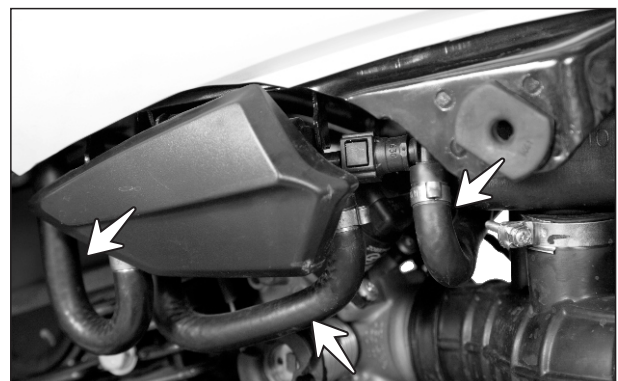

Fig. 2.68
- Inspect the fuel hoses and connections for damage and leakage. (Fig. 2.68)